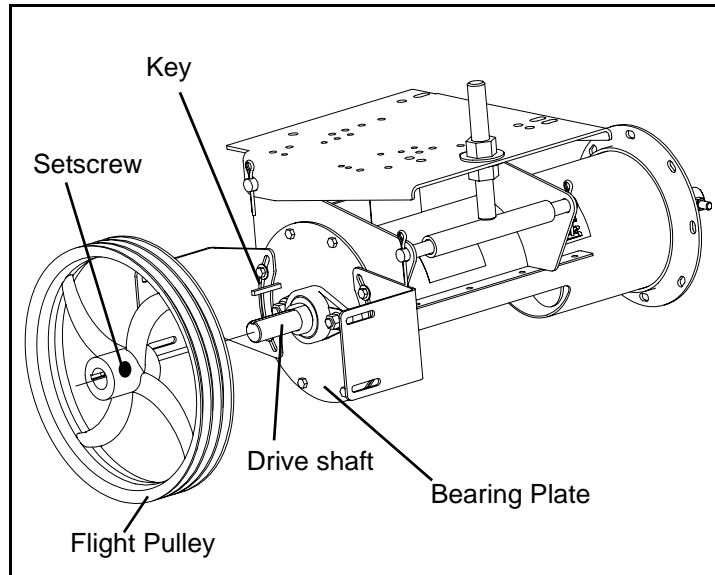

Figure 4J
3. Once the pulley is appropriately positioned, tighten the Setscrew with a hex head wrench to secure it to the drive shaft. (See Figure 4J).